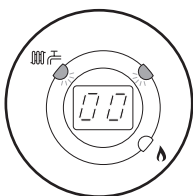

Fig. 89
7. The display will show '00', indicating maximum rate, then revert to 'P' alternating with the current boiler temperature (Figs. 89, 90 & 91).